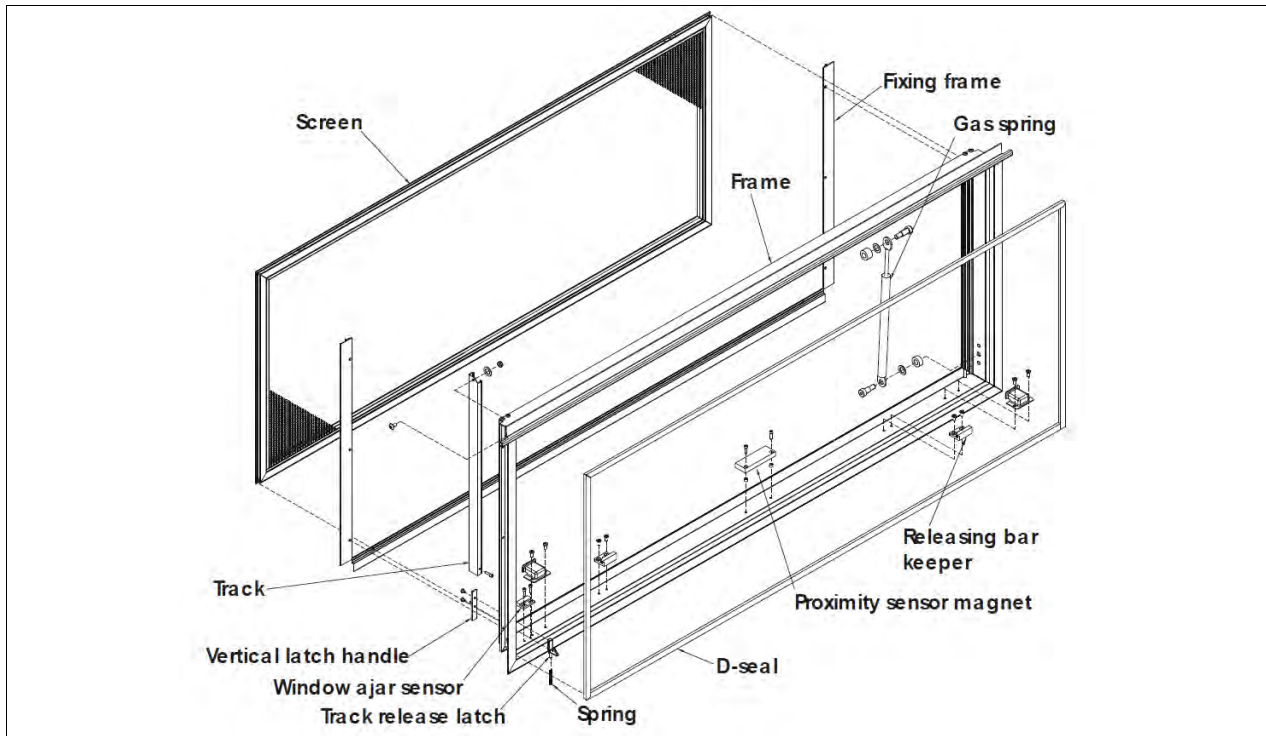

FIGURE 104: ELECTRIC AWNING WINDOW EXPLODED VIEW (FRAME) 18586
4. Loosen the set screws #5 (Figure 104) (rotate the arm to get to the second set screw) and disengage the swiveling arm from the motor shaft extension.